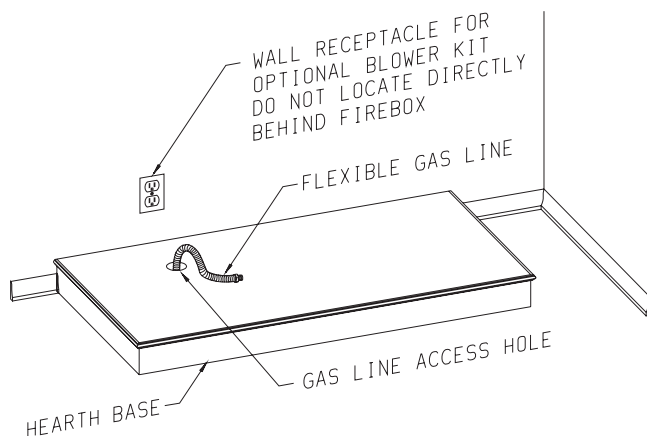

Figure 13
3. Place hearth base accessory against wall at installation location. Cut an access hole in hearth base top and laminate trim if used to run flexible gas line to fireplace (see Figure 13). Make sure to locate access hole so cabinet mantel will cover it when installed. *Note:* You can secure base to floor using wood screws. Countersink screw heads and putty over.
Placing Hearth Base Accessory Against Wall (Figure 13)